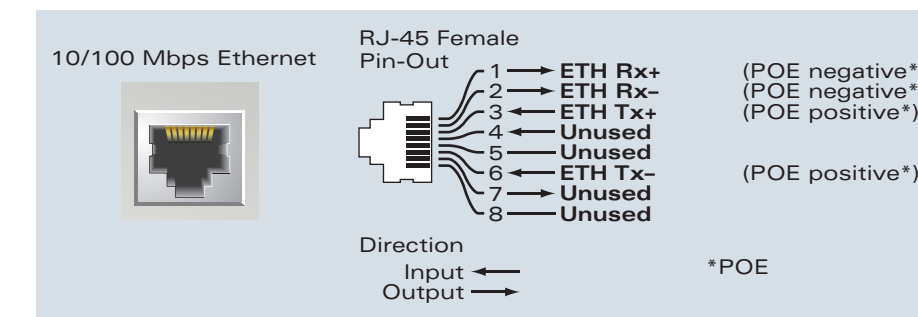

Figure 0-2: Aruba 40 FE Port
The 10/100 Mbps Ethernet (FE) port is located on the right-hand side of the Aruba 40 and has an RJ-45 female connector. The port pin-outs are shown in Figure 0-2: